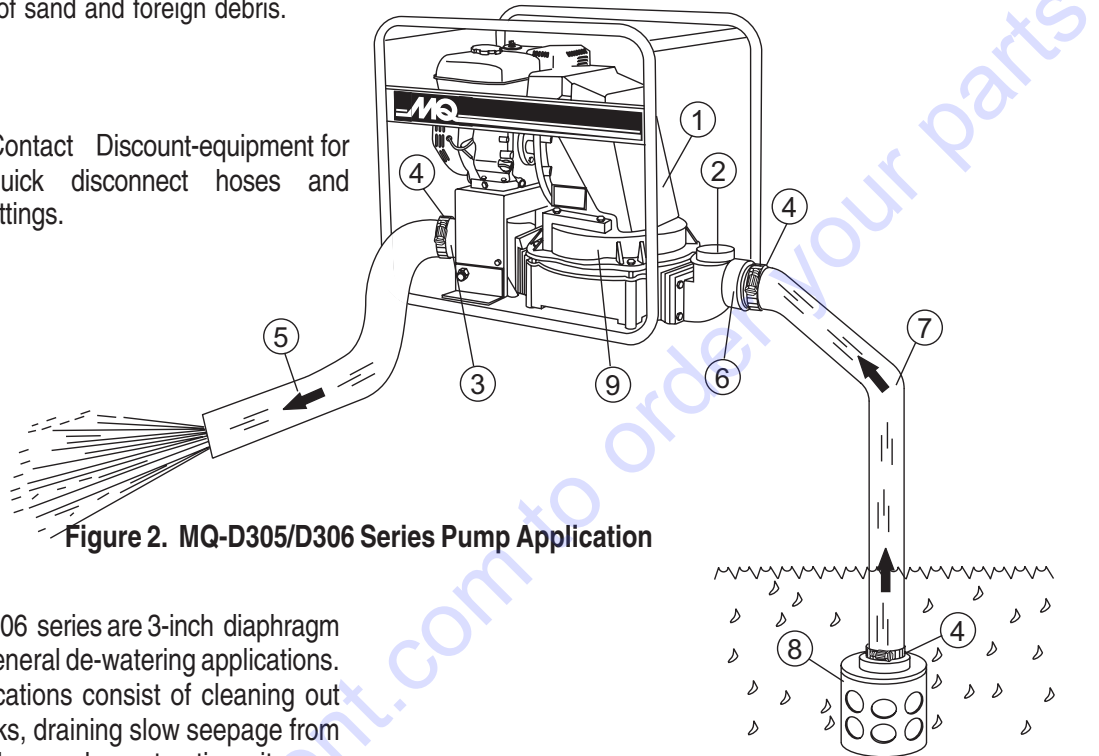

Figure 2. MQ-D305/D306 Series Pump Application
Figure 2 shows a typical application using the MQ D305/D306 series diaphragm pump. Please note that this pump is intended for the removal of clean water and water containing some debris and solids. Maximum size of solids should not exceed 1.5 inch (38 mm) in diameter. **DO NOT** set strainer on bottom of water bed. Placing the strainer above the water bed will prevent the pump from drawing in excessive amounts of sand and foreign debris.
3. To prime pump, remove fill cap (Figure 2) and fill pump casing with water. If the pump casing is not filled with water before starting, it will not begin pumping.
1. Check that all hoses are **securely** attached to the pump. Make certain suction hose (Figure 2) does not have any air leakage. Tighten hose clamps and couplings as required.
4. Check that the **discharge** hose (Figure 2) is not restricted. Place hose so that it lays as straight as it is possible on the ground. Remove any twists or sharp bends from hose which may block the flow of water.
6. Make sure the **suction strainer** (Figure 2) is clean and securely attached to the water end of the suction hose. The strainer is designed to protect the pump by preventing large objects from being pulled into the pump.